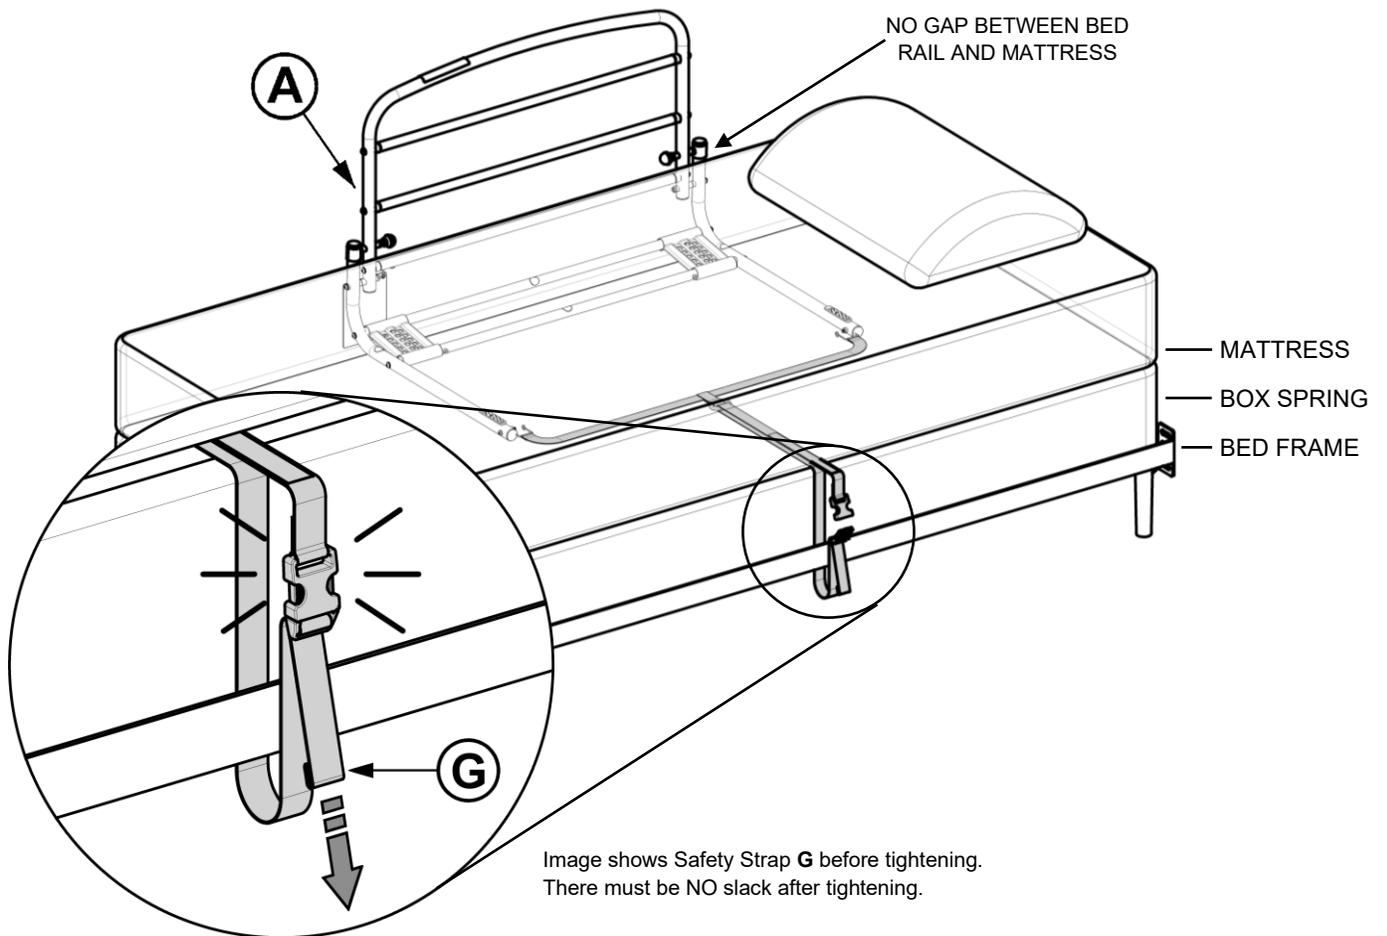

FIGURE 4
- Place base of product directly under the Mattress and extend the Safety Strap **G** below the Mattress to the opposite side of the Bed. Unbuckle Strap, loop around Bed Frame, re-buckle and tighten the Safety Strap to secure the Bed Rail against the side of the Mattress as shown in *FIGURE 4*. Ensure the Bed Rail is tight against the Mattress without gaps and the Safety Strap has no slack.